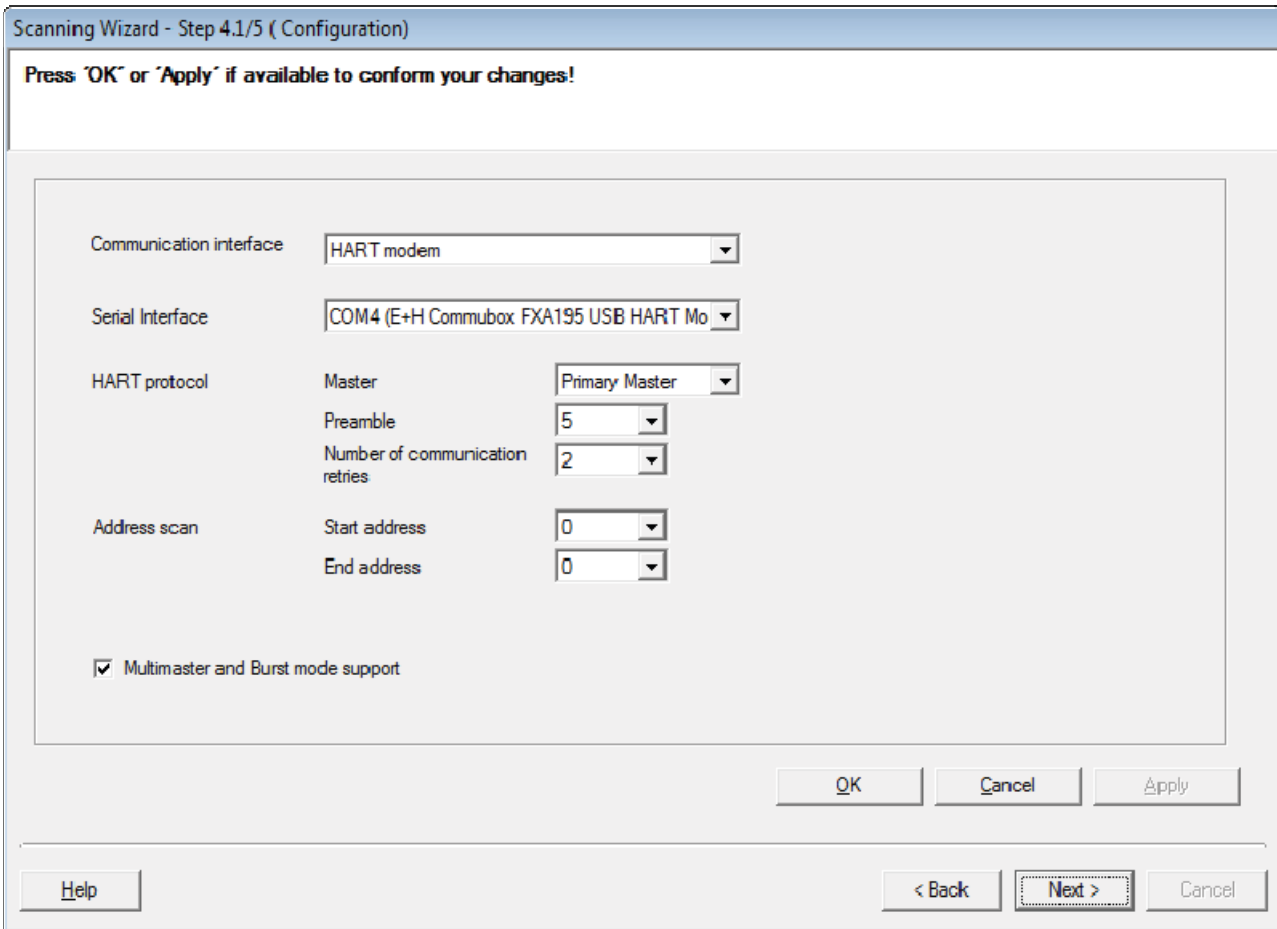

Figure 2-10. Point-to-point configuration Window.
6. In the point-to-point macro configuration window, make sure that your parameters are those of Figure 2-10, except for the COM port, which can be different.